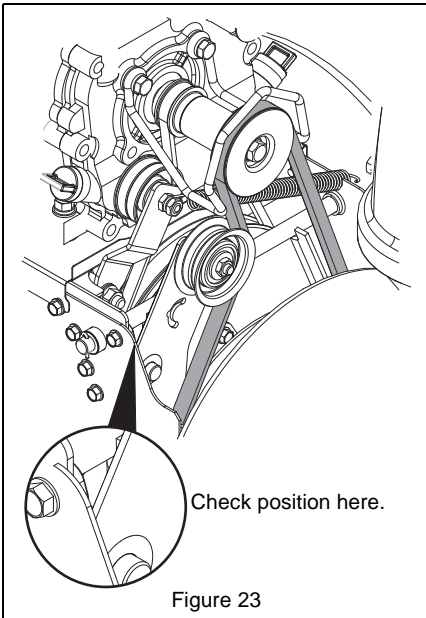

Figure 23
5. With the attachment clutch disengaged, make sure auger idler arm lightly touches the frame. See Figure 23.